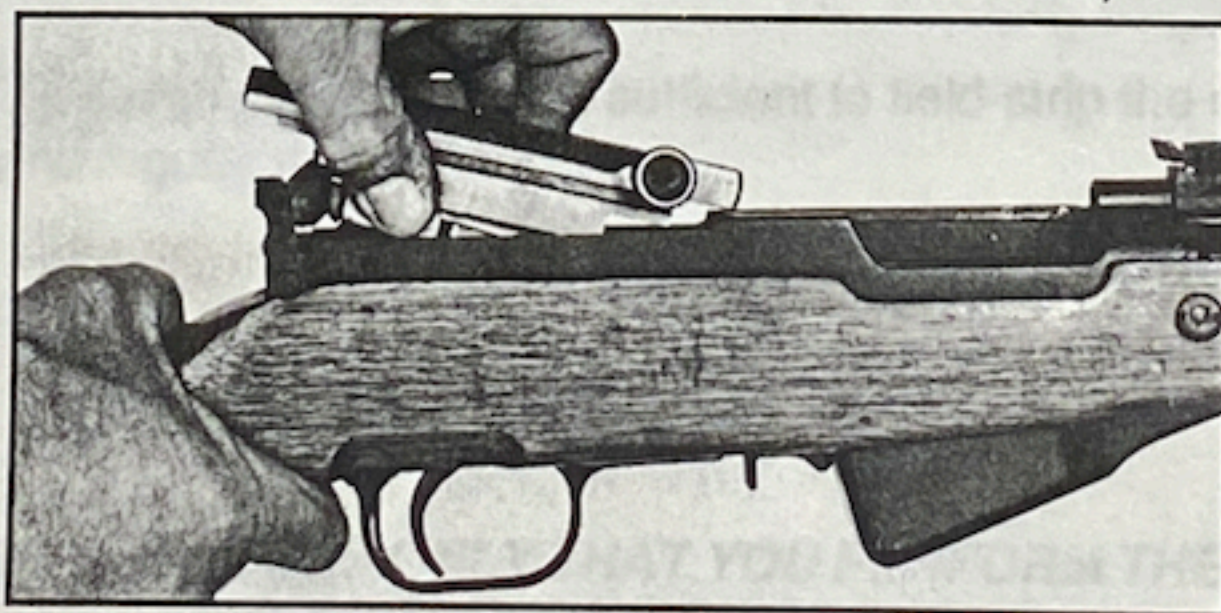

Figure 12
4. To remove the bolt: pull the bolt back as far as it will go, and remove the entire assembly. (Figure 12) When reinstalling bolt, be certain magazine cover is not latched.)